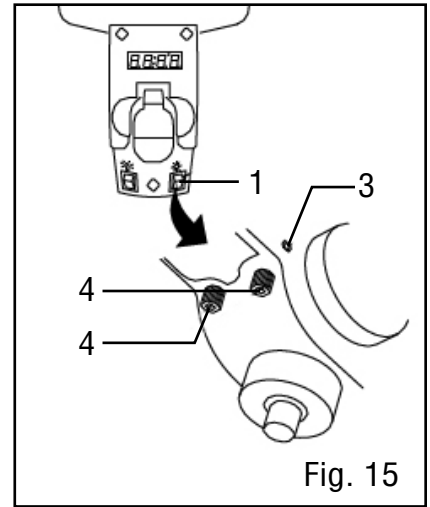

Fig. 15
3. Place a combination square (Fig. 15 - 5) (not included) on the table as shown, placing the long straight edge of the combination square against the drill bit. Make sure the drill bit is parallel / aligned exactly to the straight edge of the square.
ADJUSTING THE LASER (FIG. 15 & 16)
2. Turn the laser switch (Fig. 15 - 1) to the ON position.
- a. Using the included 3 mm hex key, turn the laser adjustment set screws (Fig. 15 - 3) counterclockwise. There is one of each side of the head.
- b. Rotate the laser light housing (Fig. 15 - 4) until the two laser lines intersect where the drill meets the workpiece.
5. Re-tighten the adjustment set screws (Fig. 15 - 3).